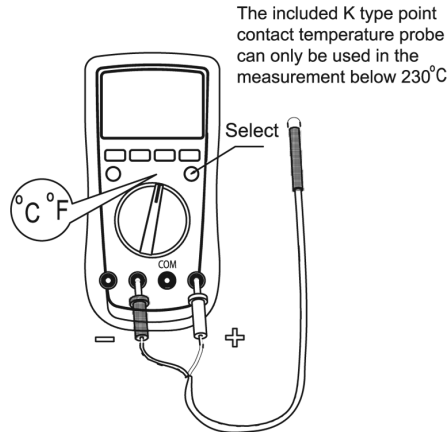

figure 9)
H. Temperature Measurement (UT61B and UT61C only) (See figure 9)
2. Insert the temperature probe into the input terminal as shown on the figure 9.